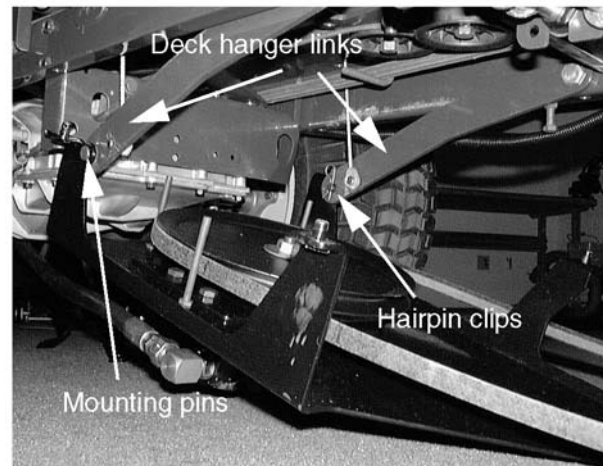

Figure 8-67.
6. Connect the two horizontal mounting pins to the deck hanger links, and secure them with hairpin clips. See Figure 8-67.